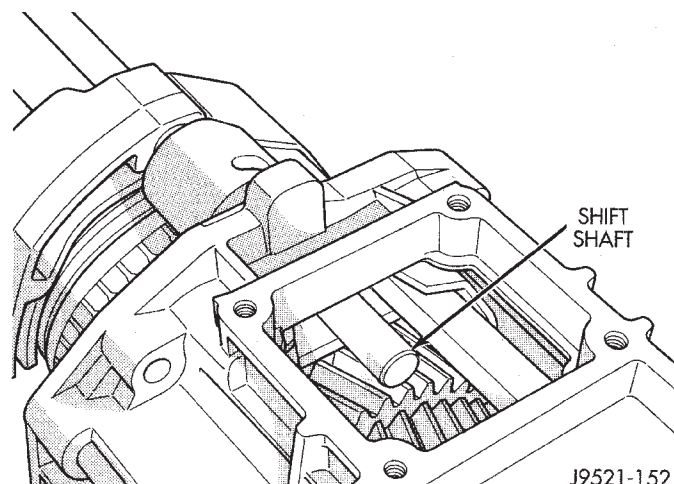

Fig. 107 Inserting Shaft Into Lever Opening In Housing
(6) Slide shift shaft through 1-2 and fifth-reverse fork and into shift lever opening in rear housing (Fig. 107).